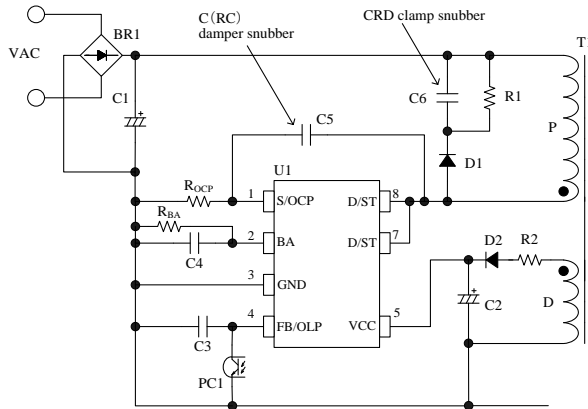

Figure 10-1. IC Peripheral Circuit
In Figure 10-1, R_{OCP} is the resistor for the current detection. A high frequency switching current flows to R_{OCP} , and may cause poor operation if a high inductance resistor is used. Choose a low inductance and high surge-tolerant type.
- The value of $C2$ is generally recommended to be 10 μ F to 47 μ F (see Section 9.1 Startup Operation, because the startup time is determined by the value of $C2$). In actual power supply circuits, there are cases in which the VCC pin voltage fluctuates in proportion to the output current, I_{OUT} (see Figure 10-1), and the Overvoltage Protection (OVP) on the VCC pin may be activated. This happens because $C2$ is charged to a peak voltage on the auxiliary winding D, which is caused by the transient surge voltage coupled from the primary winding when the power MOSFET turns off. For alleviating $C2$ peak charging, it is effective to add some value $R2$, of several tenths of ohms to several ohms, in series with $D2$ (see Figure 10-1). The optimal value of $R2$ should be determined using a transformer matching what will be used in the actual application, because the variation of the auxiliary winding voltage is affected by the transformer structural design.
In case the surge voltage of V_{DS} is large, the circuit should be added as follows (see Figure 10-1);